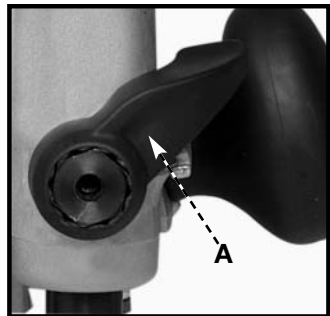

Fig. 14
2. Release the plunge mechanism by pulling the locking lever (A) Fig. 14 down. Lower the plunge mechanism until the router bit touches the work surface. Release the lever and push it to the right to lock the mechanism in this position.
1. Lock the plunge locking lever (A) Fig. 14 by moving it to the operator’s right as far as it will go.
2. Push in on the plunge locking lever (A) Fig. 14.
3. Move the plunge locking lever (A) Fig. 14 to the desired location and allow it to spring back into position.